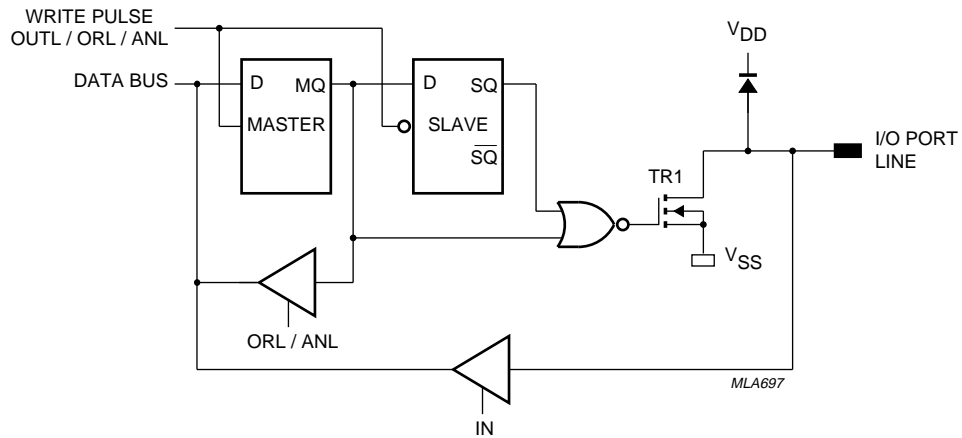

Fig.12 Open drain output.
- Option 2 **Open-drain**; quasi-bidirectional I/O with only an n-channel open drain output. Application as an output requires connection of an external pull-up resistor (see Fig.12). If unused, an option 2 output should be tied to V_{SS} . This keeps the input path from floating, thereby avoiding undesirable current flow through input stages.